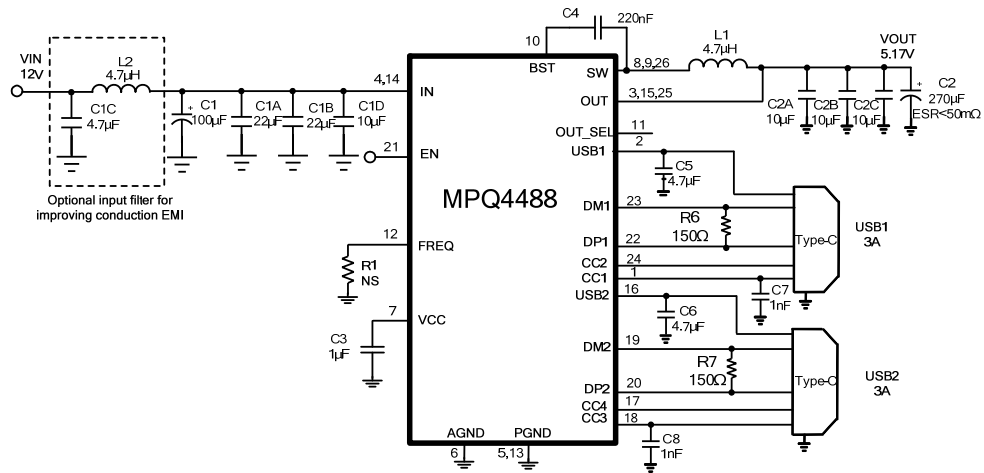

Figure 13: Dual USB Type-C 5V/3A DFP Ports ⁽¹¹⁾
10) The recommended layout is based on the Typical Application Circuits in Figure 13 to Figure 15.